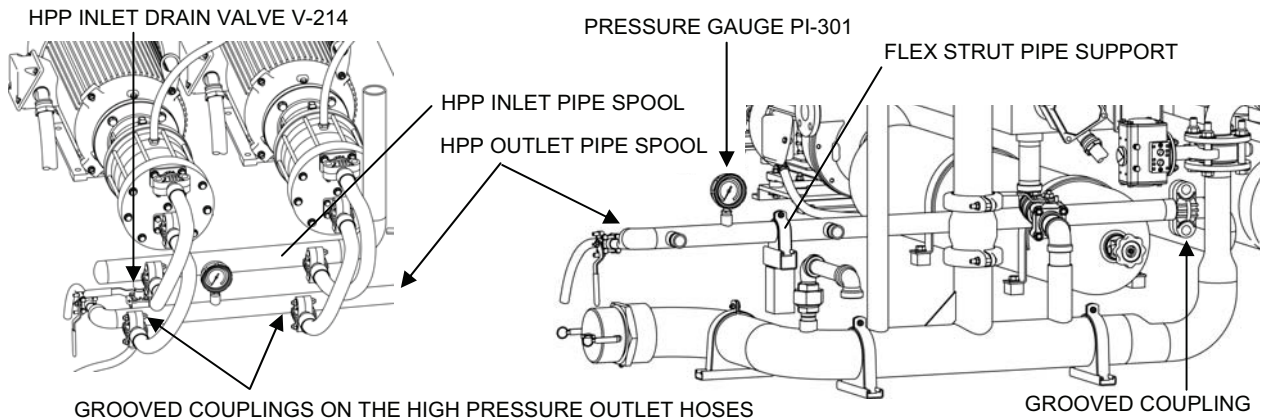

Figure 15. High Pressure Pump Outlet Pipe Spool Installation.
13. Reinstall the High Pressure Pump Outlet Pipe Spool as follows (see Figure 15):